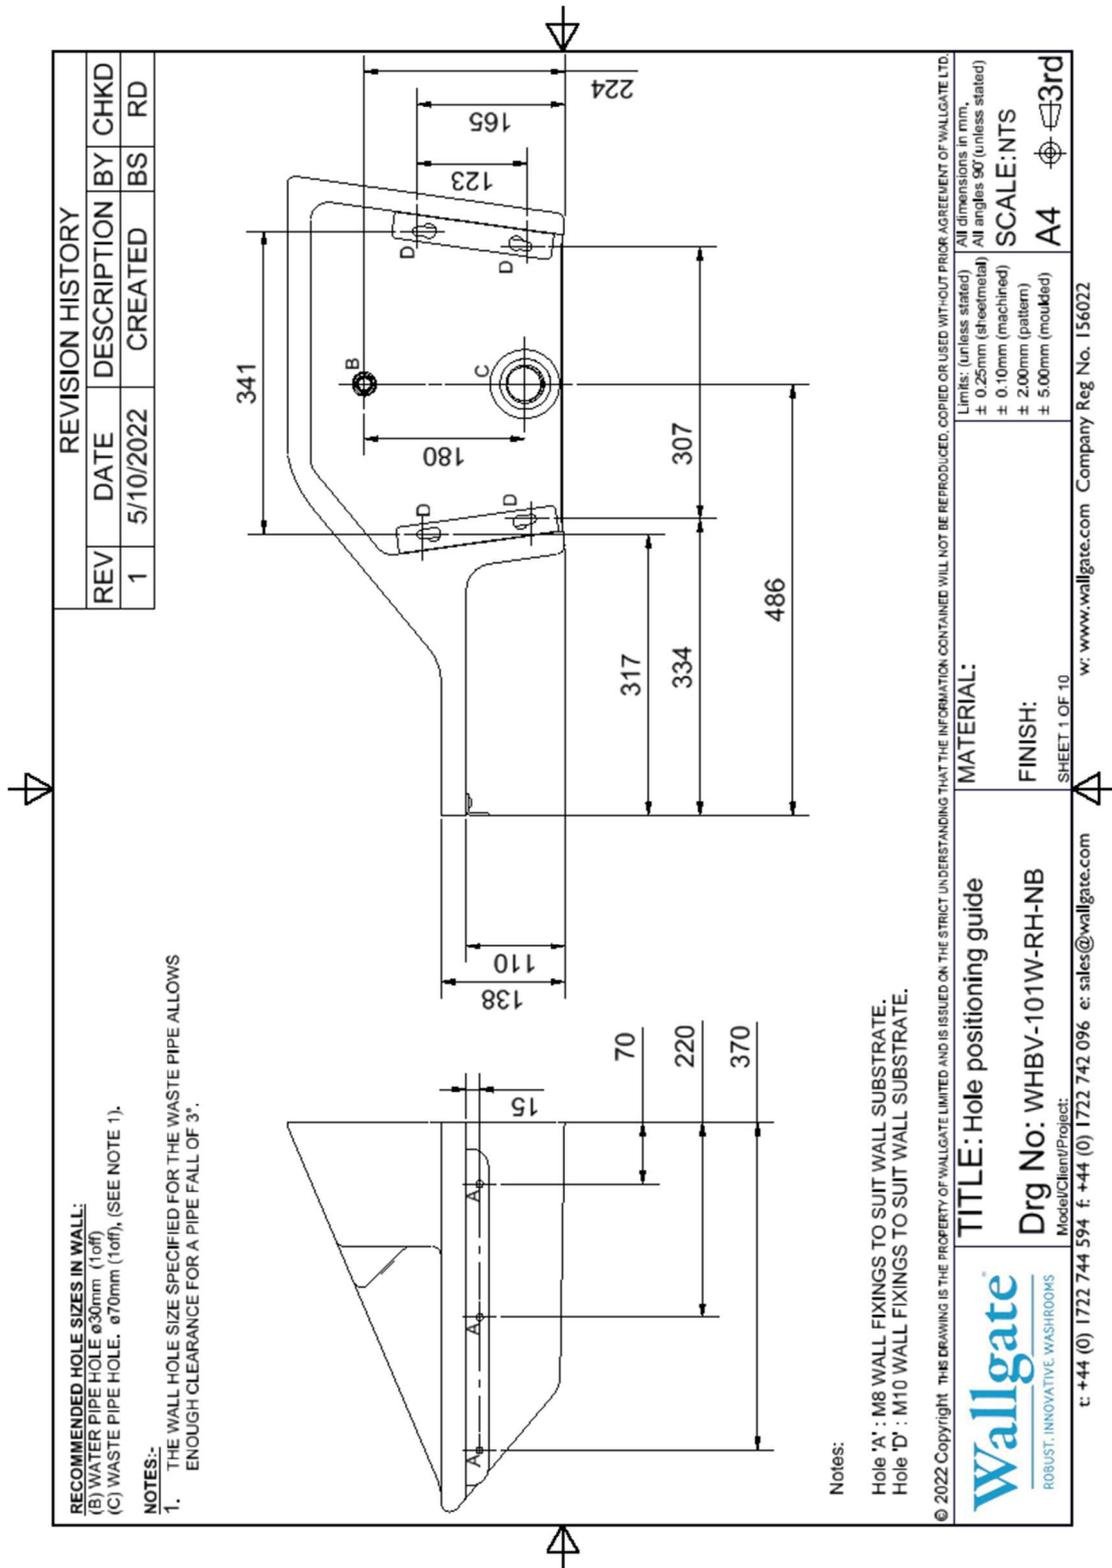

Figure 3. Wall hole sizes & positioning for WHBV-101W-RH-NB.
- You must drill holes in the wall for the support brackets, water supply pipe and waste pipe as given in Figure 3 and 4. This basin is not provided with any wall fixings and the user/customer must provide these.
The washbasin must be prepared before attaching it to the desired walls. To prepare the washbasin refer to figures 3 or 4 and 5 & follow the instructions below:
2. Once the desired height for the basin has been chosen, refer to figure 3 or 4 for the position and size of the required holes.
5. Push the waste pipe (Item 5, figure 5) into the brass socket on the rear of the basin. The brass socket has a groove which is fitted with an O ring seal. The socket is labelled C in Figures 3 and 4.